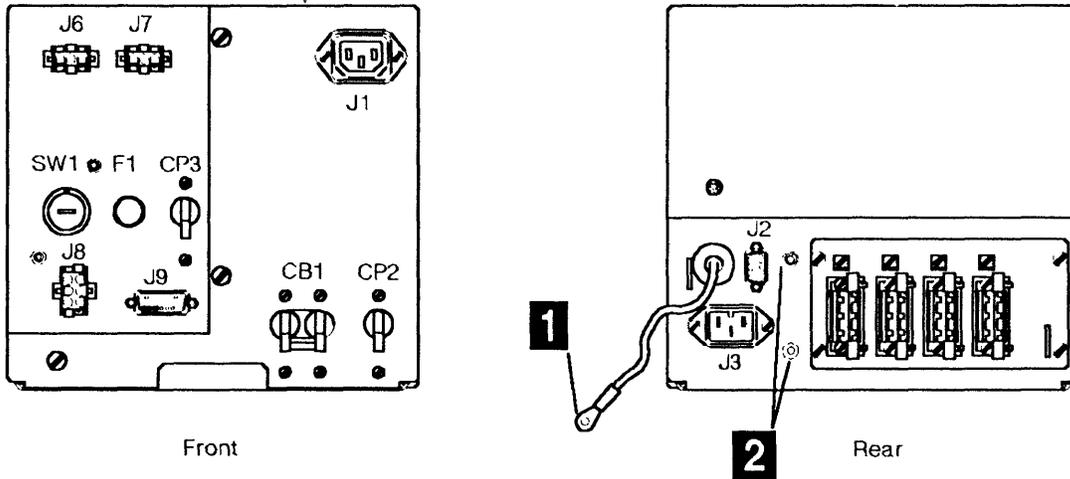
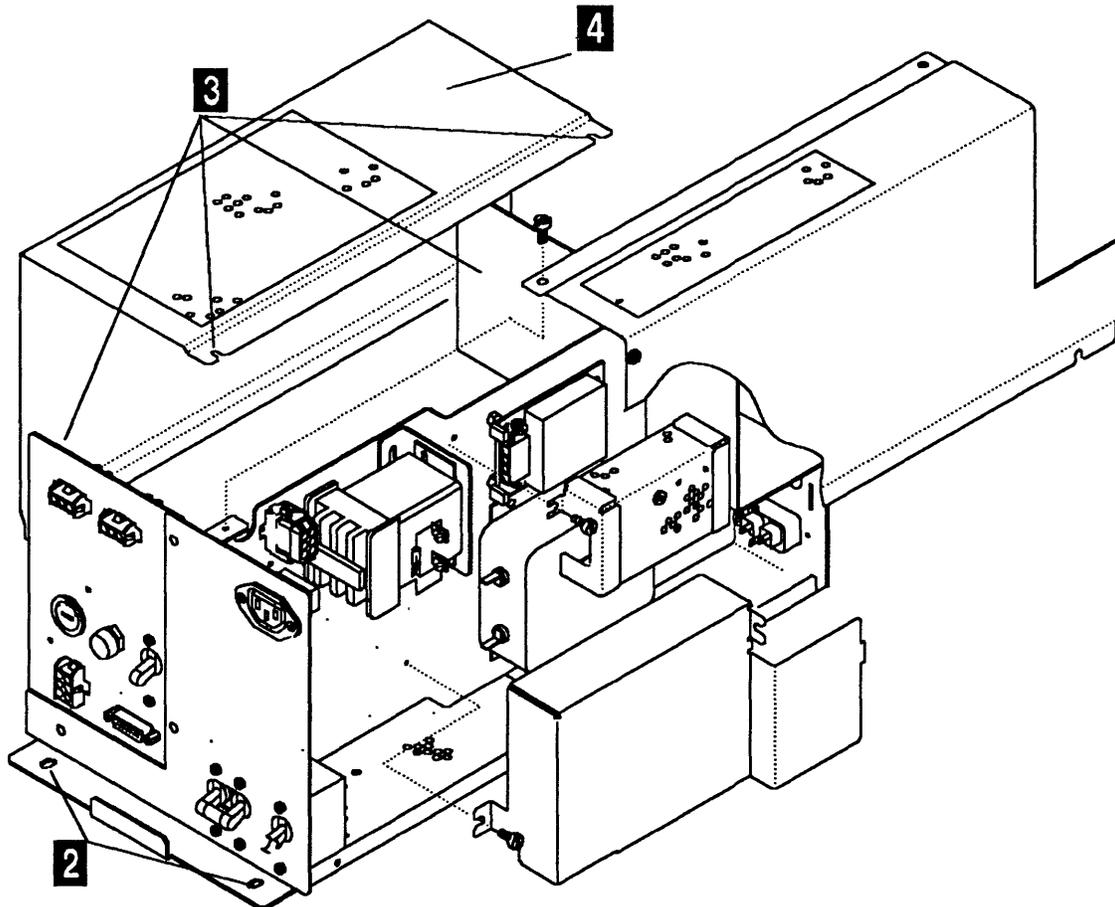

Figure 4-92. Cables on Primary Power Box
Figure 4-93. Primary Power Box and PS2 Cover Removal
Refer to Figure 4-92 and to Figure 4-93 on page 4-67 then do the following:
10. Remove the 4 screws **2** which secure the primary power box to the frame. Refer to Figure 4-92 on page 4-67 and Figure 4-93 on page 4-67.